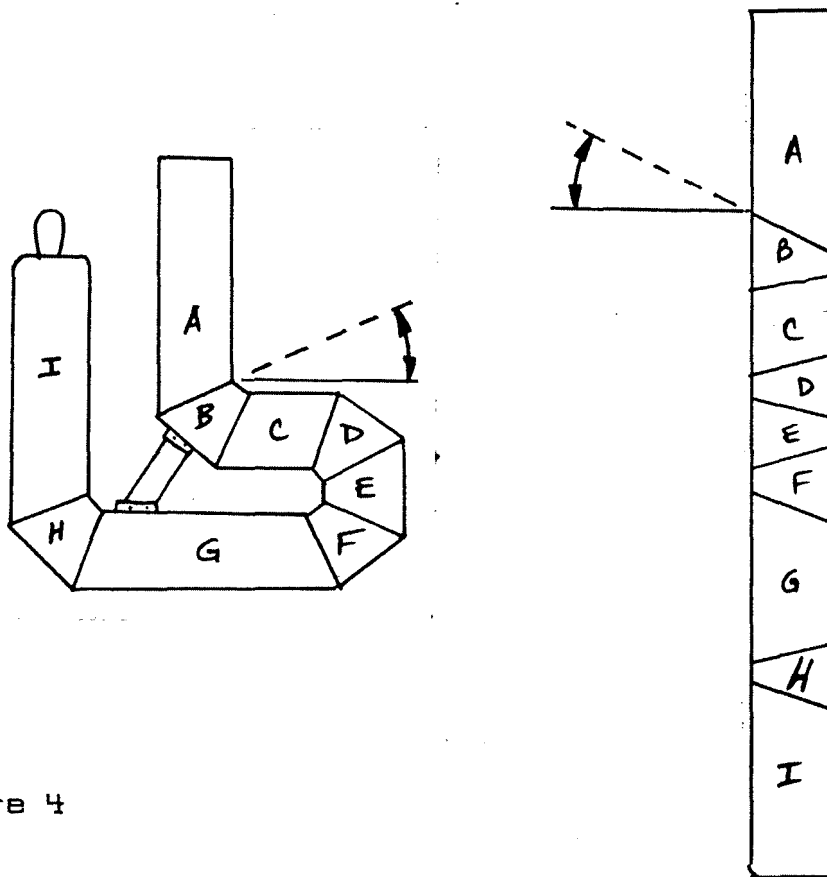

Figure 4
5.7 The length of the lower pitch resonators shall be dictated by the frequency of the note. These lower pitch resonators will require mitering so they can fit under the bar thus maintaining the specified playing height. (See Figure 4)